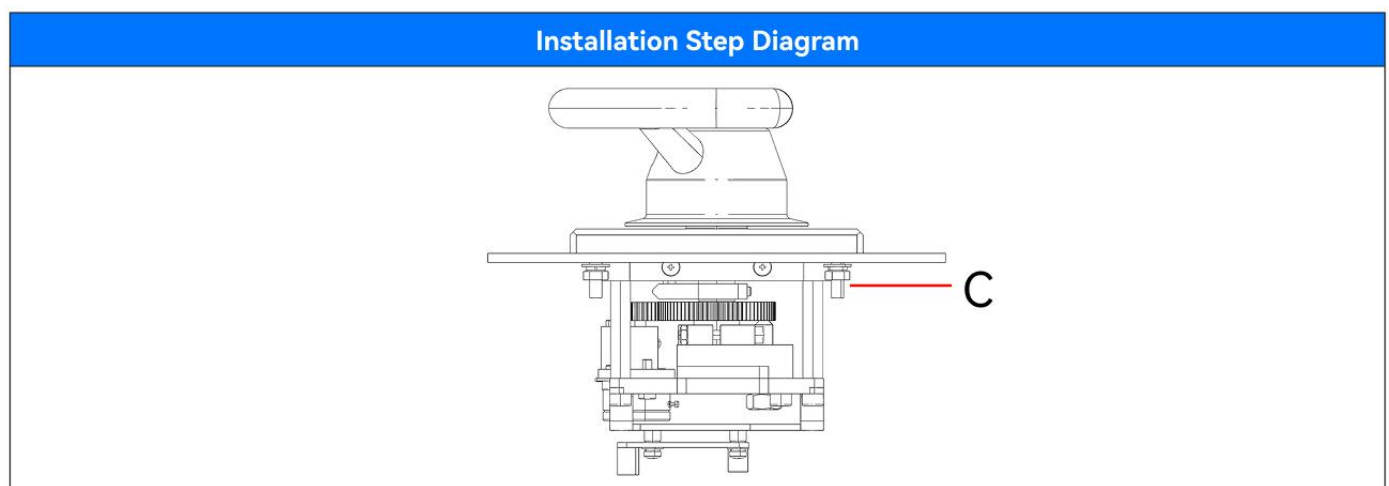

Figure 3.3
3. As shown in Figure 3.3, fix the control lever on the mounting plate by installing screws and accessories, and tighten the nut C. Ensure that the handwheel is securely and reliably fixed to the mounting plate. There should be no gaps on the contact surface and no shaking is allowed.